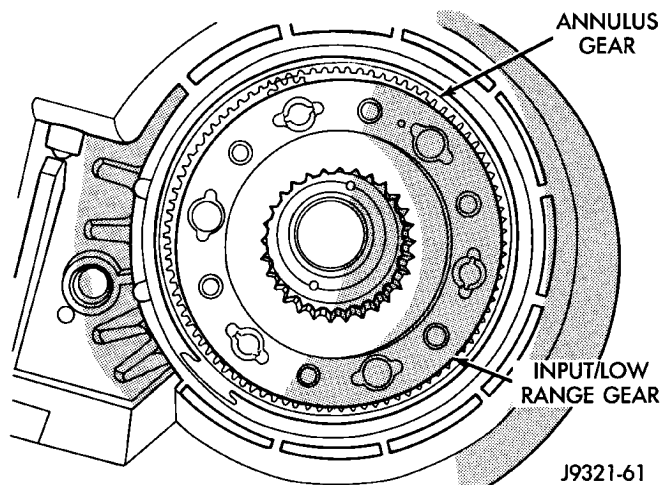

Fig. 56 Input/Low Range Gear Installation
(1) Align and install low range/input gear assembly in front case (Fig. 56). Be sure low range gear pinions are engaged in annulus gear and that input gear shaft is fully seated in front bearing.